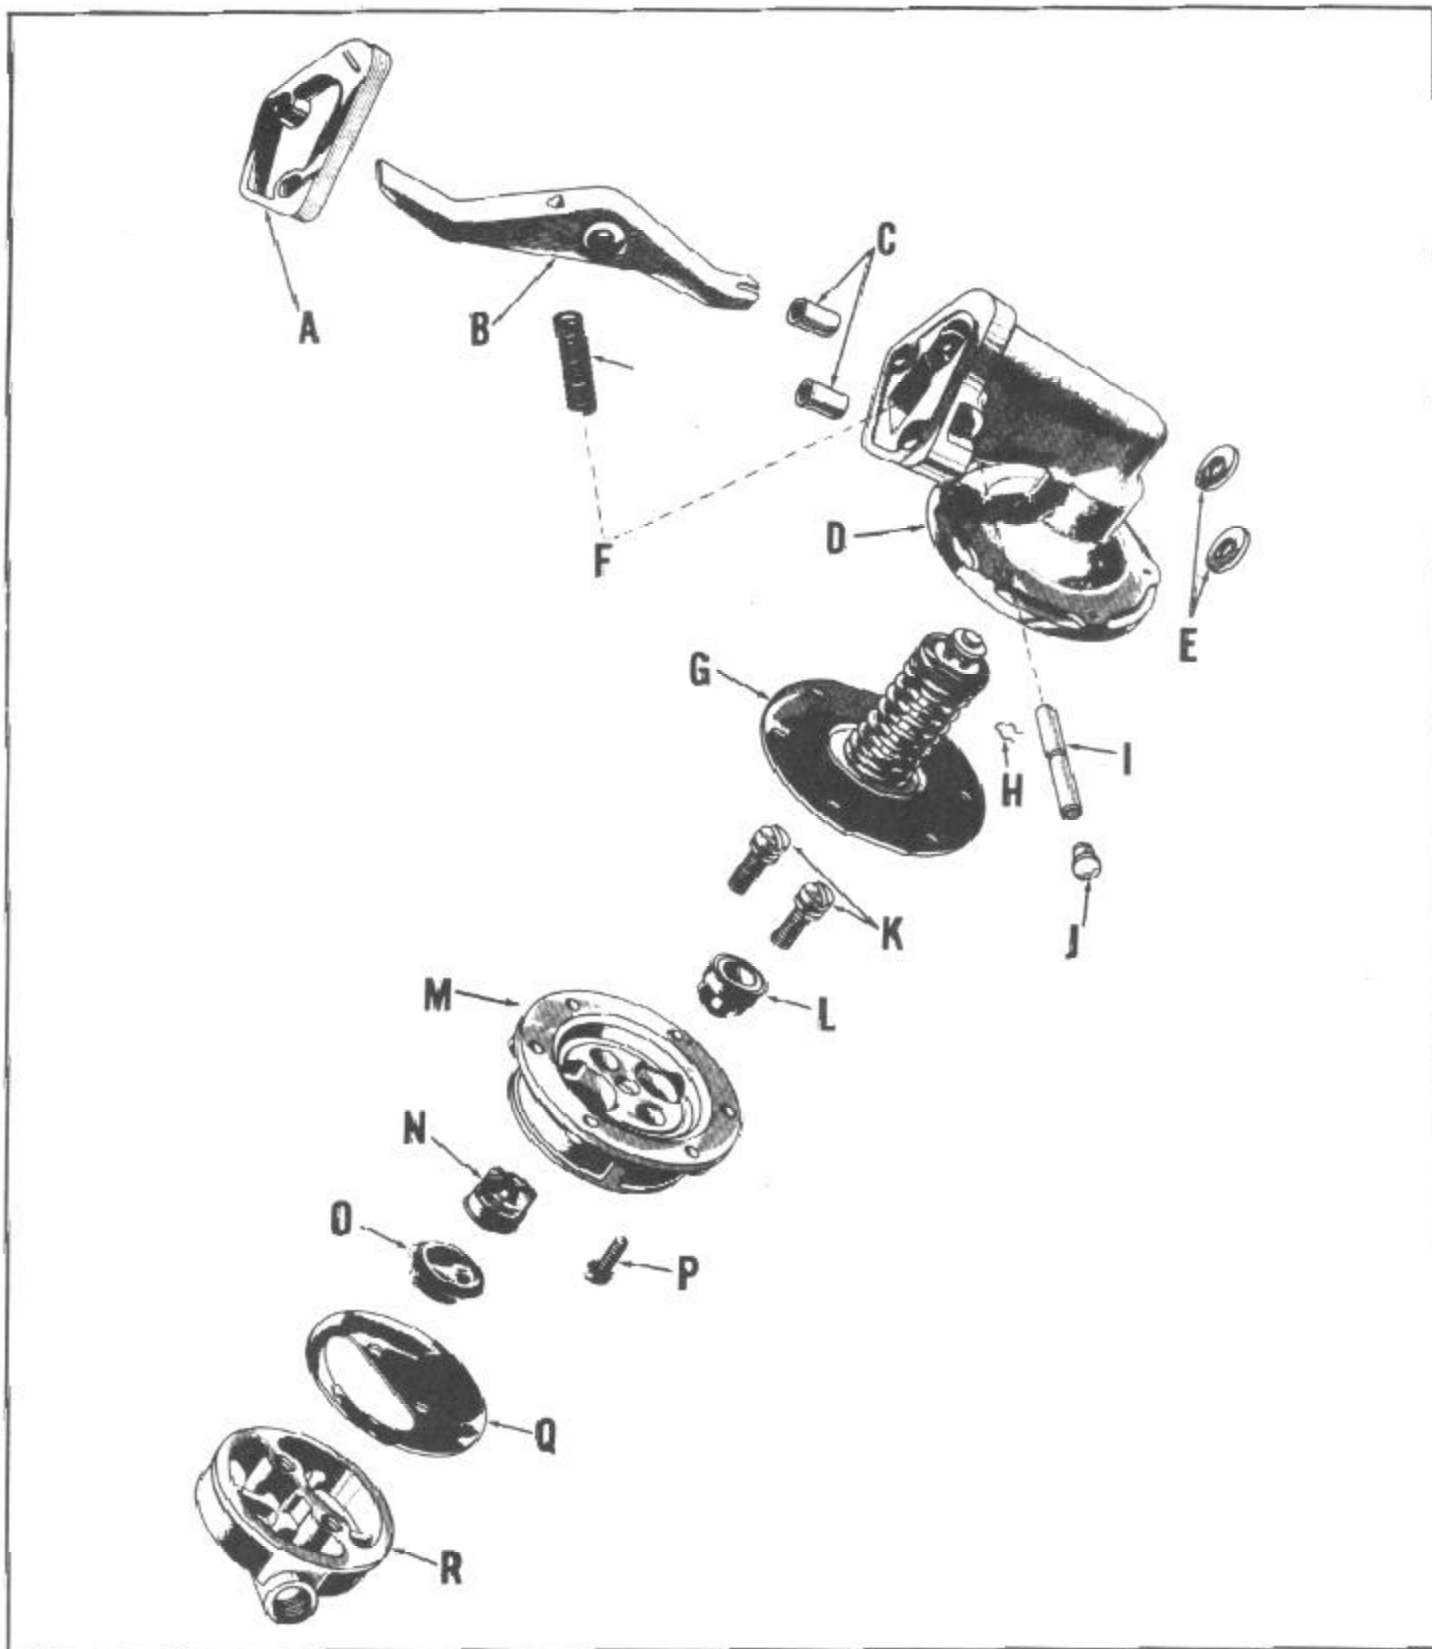

FIGURE 85
Install in reverse of removal. Make sure flange gasket (A), Figure 85, mounting stud insulator bushings (C) and washers (E) are placed as indicated in exploded view.
2. Remove cam lever return spring (F), Figure 85.